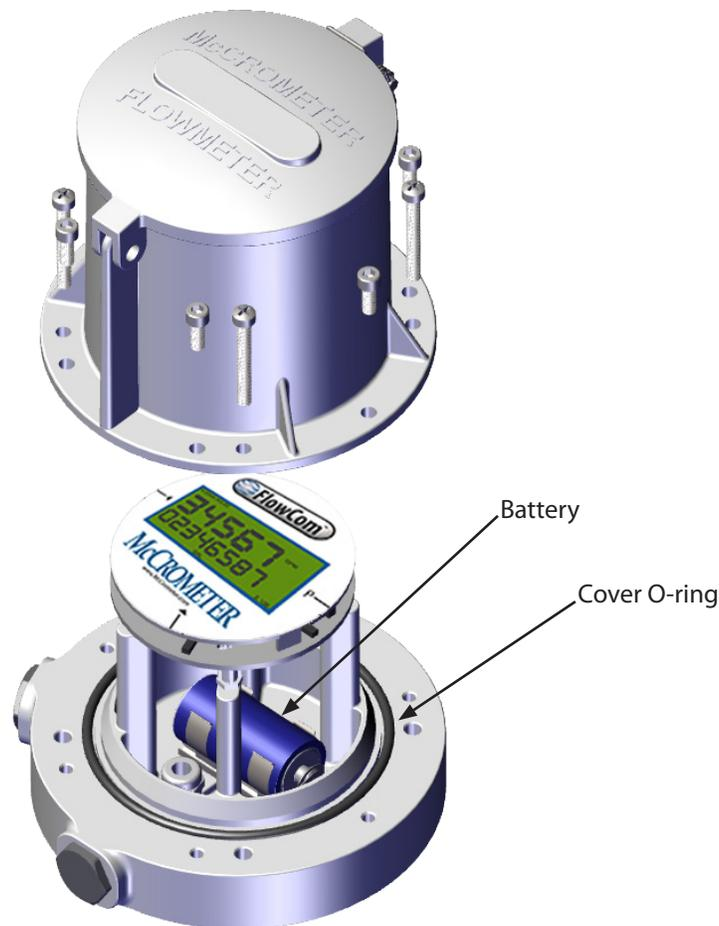

Figure 19. Canopy enclosure removed for battery replacement
8. Apply O-ring lube to the cover O-ring (Figure 19).